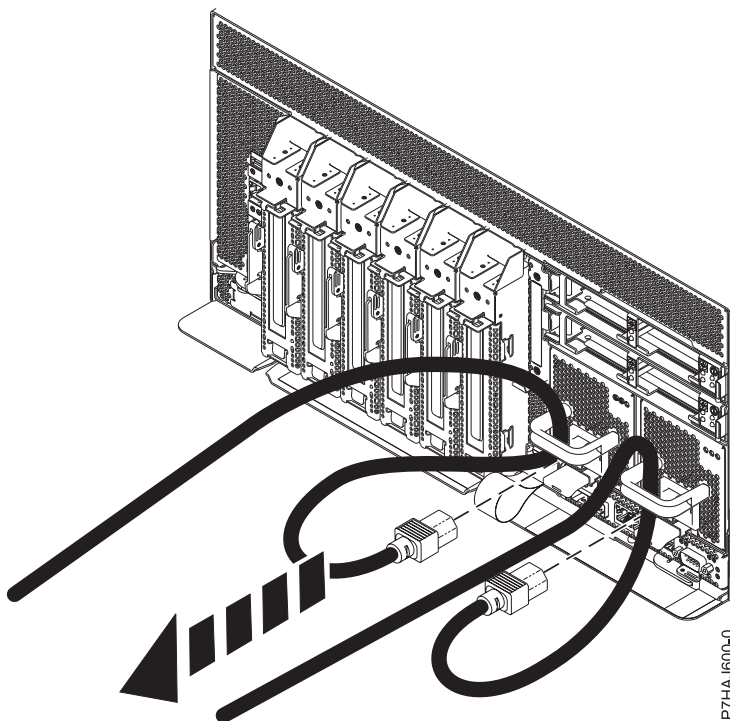

Figure 33. Removing the power cords
3. Disconnect the power cords from the system unit as shown in Figure 33.